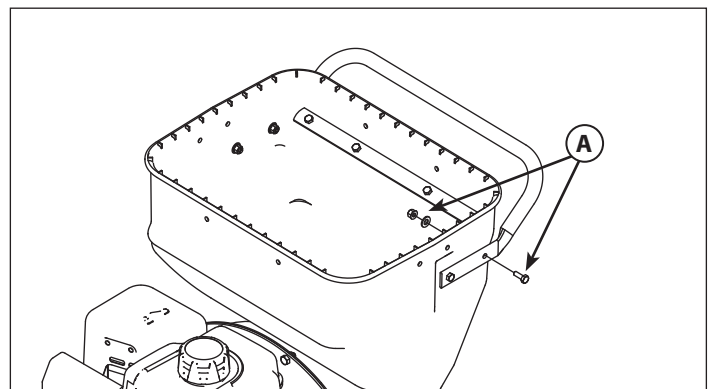

FIGURE 3 - Installing the Hopper Handle
1. Lift the hopper handle up until the outer holes in the handle align with the holes in the shredder hopper and secure with 1/4-20 x 3/4 screws, washers, and nuts (A). Insert the screws from the outside of the shredder hopper. **SEE FIGURE 3**